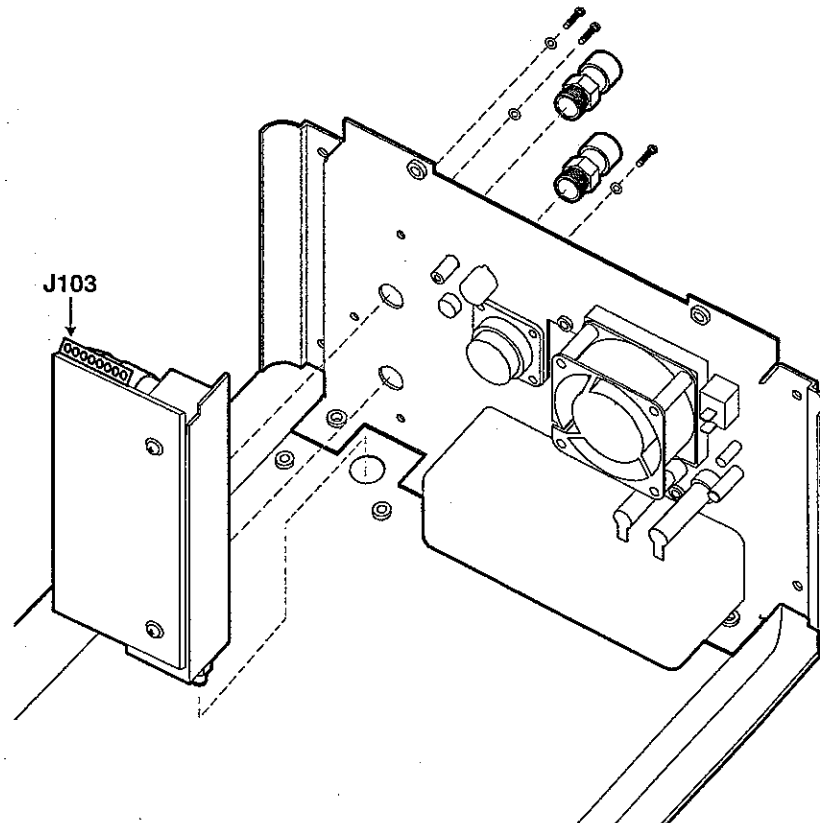

Figure 5-15. Blender Assembly
- 5 Referring to Figure 5-15, remove the pair of O₂ DISS fittings from the rear of the ventilator. Take precaution not to lose springs within the fittings.
- 6 Remove the two (2) screws from the rear of the ventilator that secure the blender to the chassis.